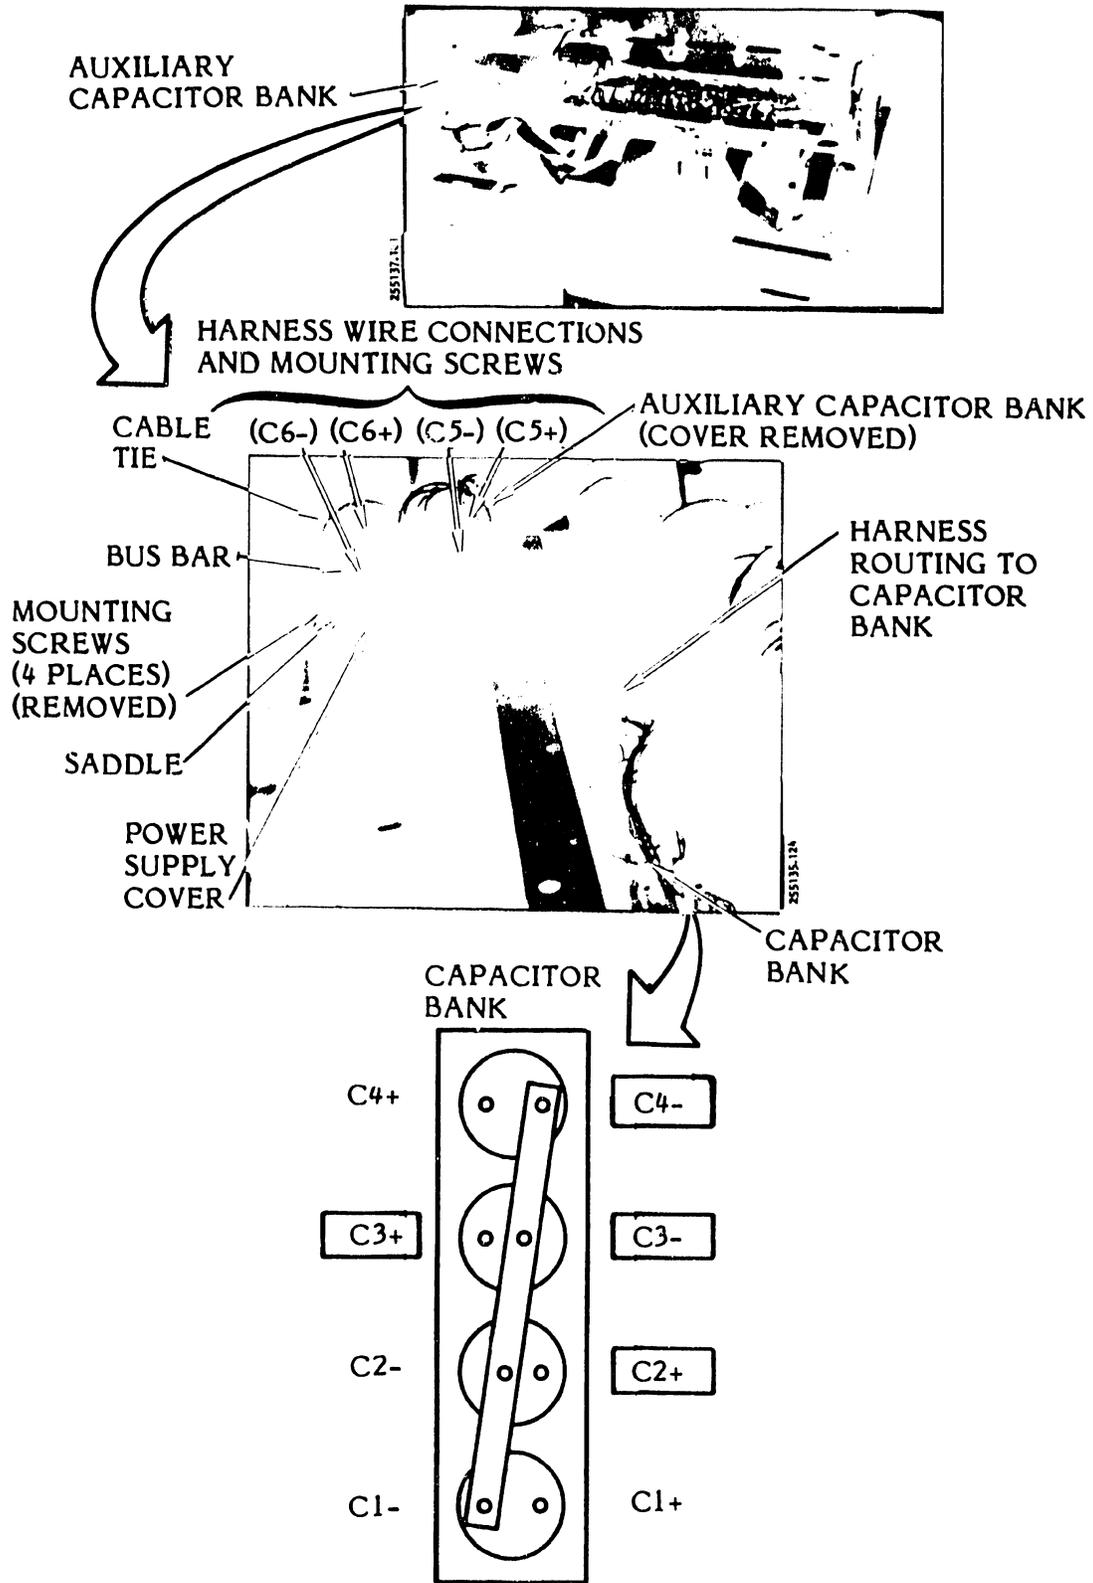

Figure 3-74. Auxiliary Capacitor Bank Assembly Removal/Installation
**(Figure 3-74)**
- 2. Use an 8 mm nut driver to remove the capacitor wire mounting screws and wires for the capacitor to be replaced (see figure 3-74 for polarities and wire identification).
- f. Use the 8 mm nut driver to remove the capacitor bank insulator cover hex head screws/washers (2) and remove the cover.
- g. Use the 8 mm nut driver to remove the mounting screws and assembly harness wires from the capacitor bank assembly at capacitor terminals C4-, C3-, C3+ and C2+. See figure 3-74 for the location of the assembly harness wires on the capacitor bank assembly.
- c. Use the 8 mm nut driver and mounting screws to connect the assembly harness wire leads to their respective capacitor bank terminals (see figure 3-74).
2. Use the 8 mm nut driver and capacitor wire mounting screws to secure the wires to the capacitor as shown in figure 3-74.